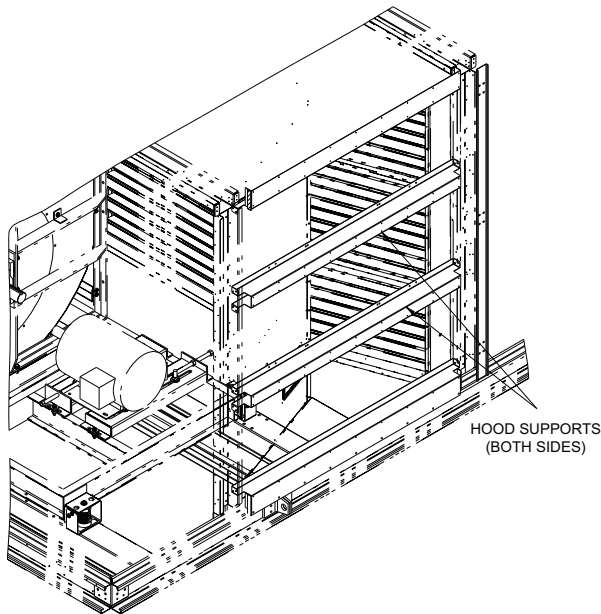

Fig. 17 — Hood Supports
- b. Remove the hood supports (quantity 2 or 3) (see Fig. 17).
- d. Reinstall hood supports (Fig. 17).